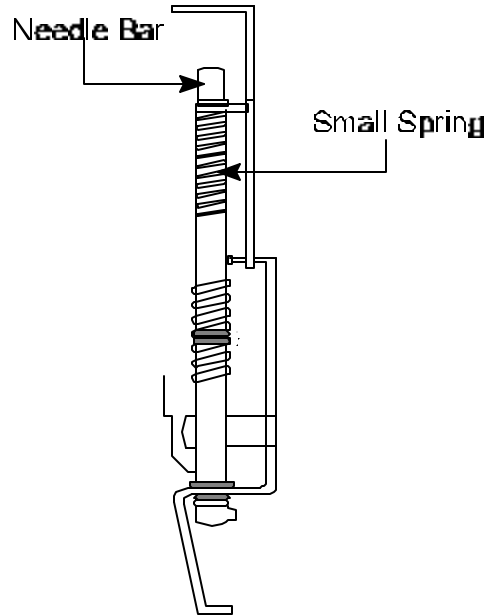

Figure 7
13. **Discard** old Needle Bar and small spring. See *Figure 7*.